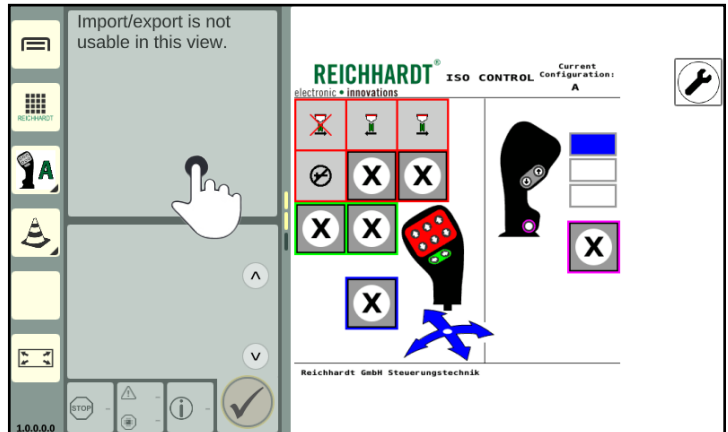

Fig. 63: Pressing and holding an application in the small window
1. Press and hold an application in the small window (see Fig. 63).